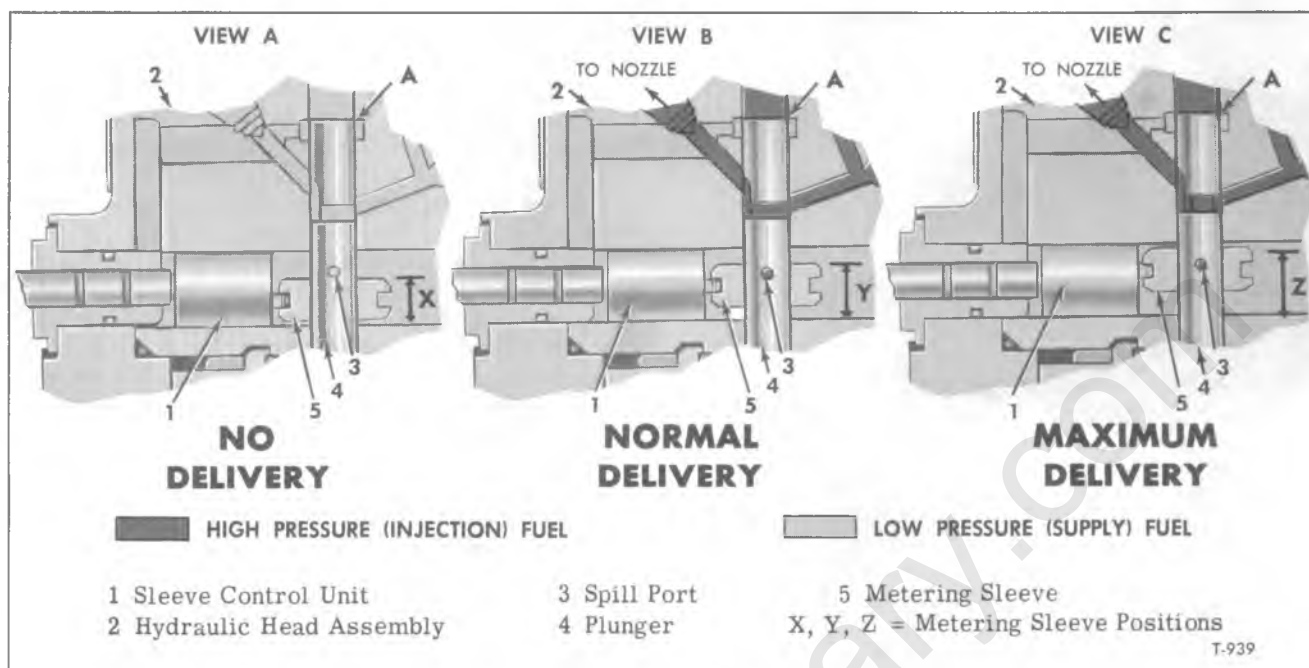

Figure 4—Fuel Metering Principle
Key numbers in following text refer to figure 4, except as otherwise indicated. Figure 4 shows three positions of the fuel metering sleeve on the injection pump plunger.
**NO DELIVERY (VIEW A, Fig. 4)**
**NORMAL DELIVERY (VIEW B, Fig. 4)**
**MAXIMUM DELIVERY (VIEW C, Fig. 4)**